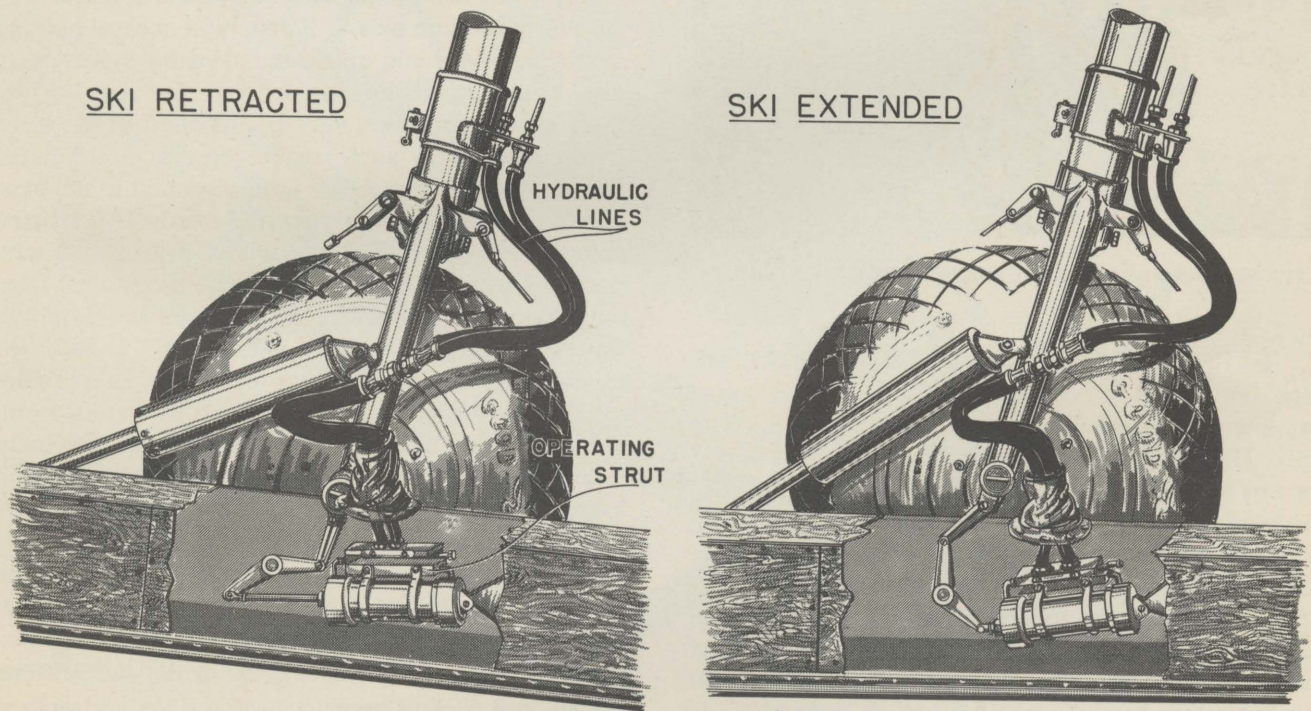

FIG. 27—LANDING GEAR SKI POSITION DIAGRAM
(1) SKI POSITION INDICATOR SYSTEM (See figure 27.)—This airplane is equipped with an electrical ski position indicator system, the position indicator mechanism used on the gear retraction system and the landing gear warning horn are rendered inoperative with skis installed. The contact switch on the throttle control which formerly operated the landing gear warning horn is now an integral unit in the operation of the ski position indicator lights (See figure 28.) With the throttle closed to the normal landing position the indicator lights located on the auxiliary panel on the right side of the front cockpit indicate the position of each ski. Indication is made on both the fully extended and fully retracted position. Like the landing gear warning device the indicator lights operate only on a dual contact to complete the operating circuit. This warning system provides visual indications only.